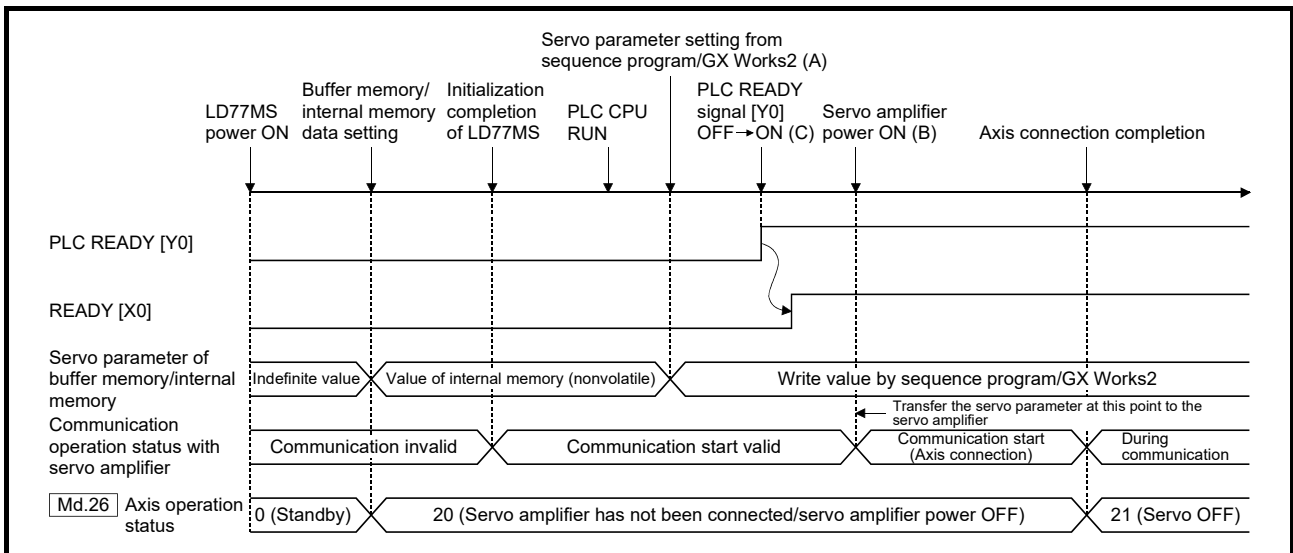

Fig. 7.3 When the servo amplifier had started after the PLC READY signal [Y0] is turned OFF to ON
(2) When the servo amplifier's power supply is turned ON after the PLC READY signal [Y0] is turned OFF to ON (Fig. 7.3 (C)).
Communication start timing to the servo amplifier: When the servo amplifier had started (Fig. 7.3 (B)).
Transfer the the servo parameter : The data written from sequence program/GX Works2 before the PLC READY signal [Y0] ON (Fig. 7.3 (A)).